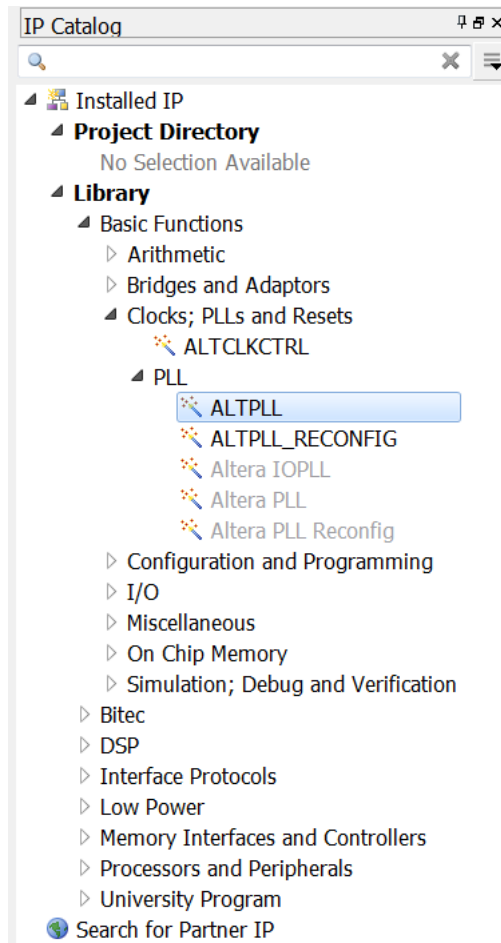

Figure 3-7 IP Catalog
2. Click PLL There will be a ALTPLL. The IP Catalog appears (see **Figure 3-7**)